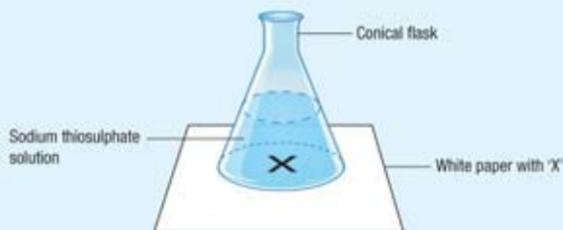

Figure 4.10
4. Place the conical flask on the 'X' on the white paper (Figure 4.10).